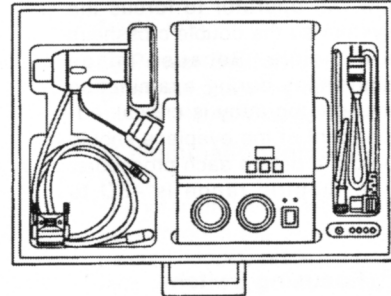

Fig. 1
4. Store each component as shown below (Fig. 1).